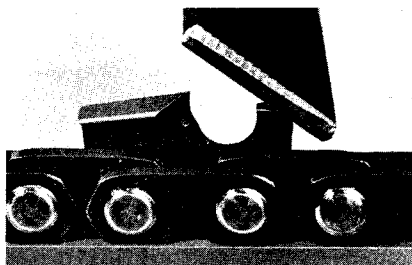

Fig. 75 — Rounding Off Front Corner of Depth Gauge
7. Round off front corner to maintain original shape, Fig. 75.